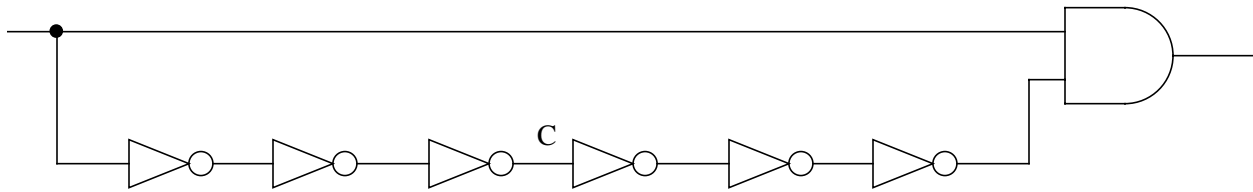

FIGURE 2 - AND/INVERTER Circuit
1. Create the circuit shown in Figure 2 and investigate the consequences of propagation delay. Sketch the expected output of the circuit if all gates were ideal (there was no propagation delay).